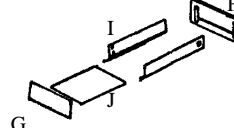

Figure 8
- Drawer assembly (Figure 8): place the drawer-face (H) face down on a flat soft working surface. Align the two drawer sides (I) and lock the cam lock. Slide drawer bottom (J) into the grooves of drawer sides (I). Then place drawer back (J) and lock the cam lock. Repeat this step for more drawers.
- Install the drawer rails: slide the drawer rails (K) backend into the opening of the holder (M) on the back panel (previously installed (step 7)). Then secure the drawer rail front-end with ½"flat head screws using the predrilled holes in the face frame. Repeat this step for each drawer rail.